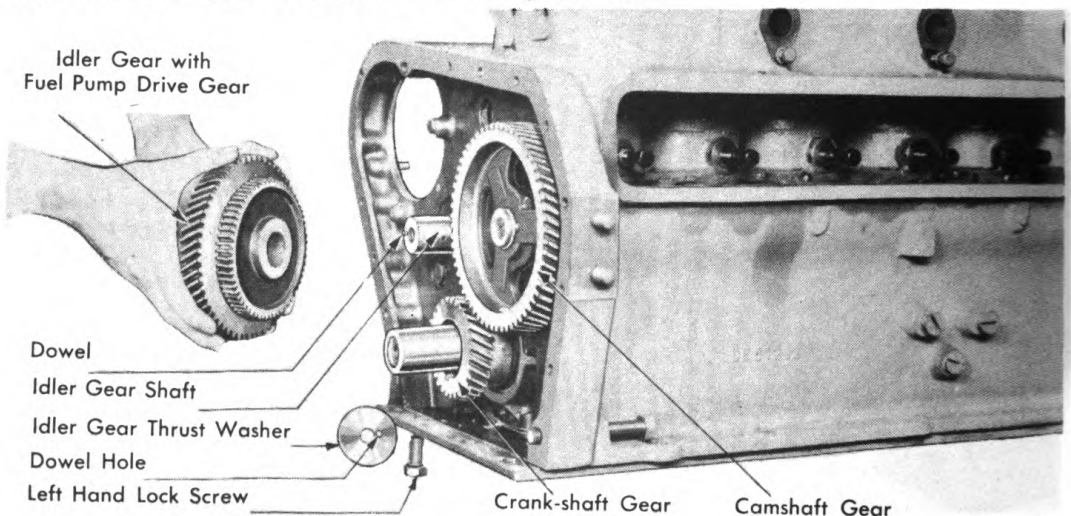

Figure 122. Removing Idler Gear.
18. Remove the idler gear. **NOTE:** The idler gear capscrew has a left hand thread. See Figure 122.